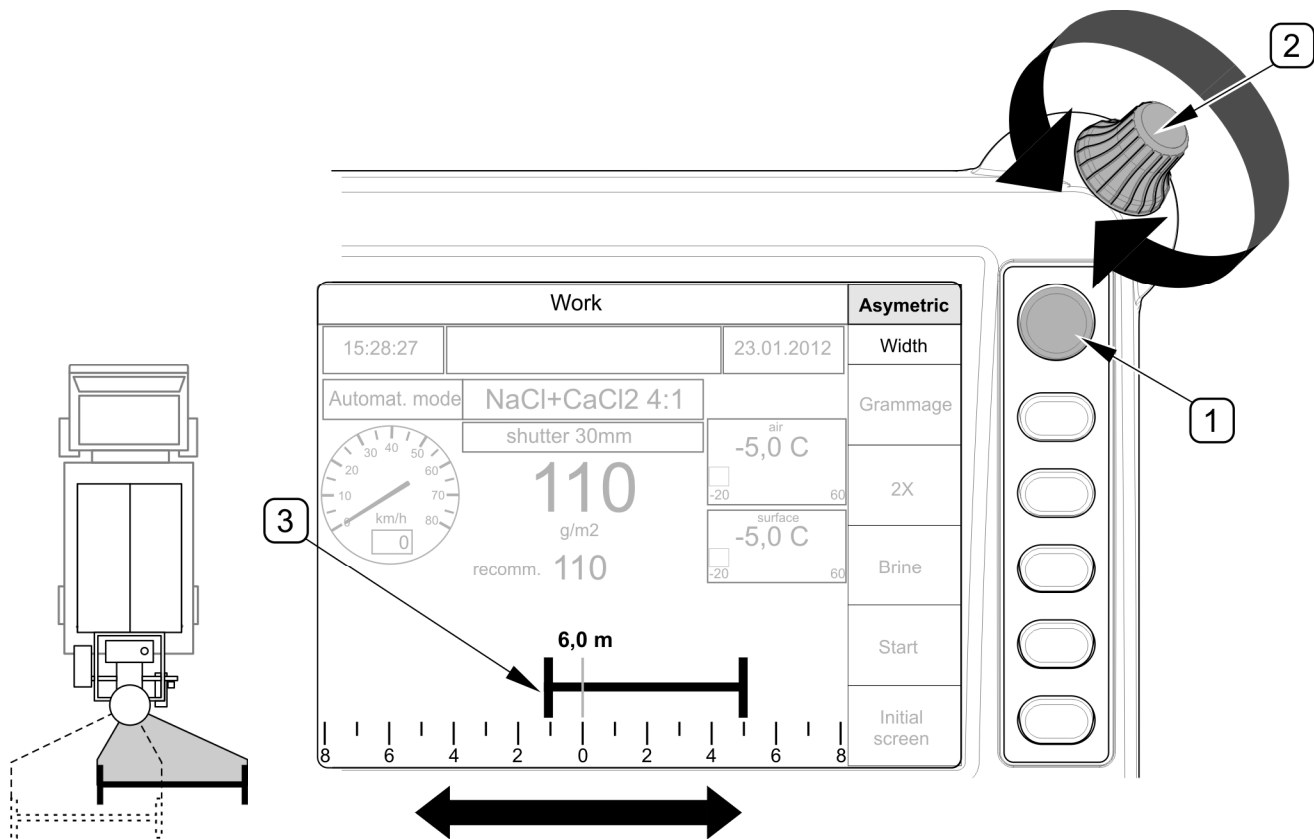

FIG. 4.32 Changing asymmetry of spreading
- Highlight "WIDTH" function by means of push-button (1)
- Turn knob (2) to set a required width (3) from 2 m ÷ 12 m
To change asymmetry of spreading, highlight "ASYMMETRY" field on working page ("OPERATION") by means of push-button (1). Turn knob (2) to move current spreading width to the right or to the left (FIG. 4.32).